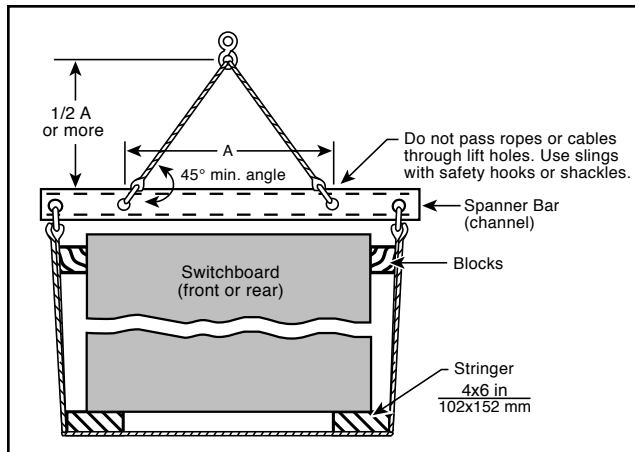

Figure 2
a) **Sling:** A crane or suitably rigged equipment with a chain arranged in a sling, or wire cable with safety hooks and shackles, should be used to lift a switchboard shipping section not equipped with lifting straps. Rig the sling completely around the switchboard and shipping stringers (see Figure 2), and use a forklift or jacks to lift the switchboard vertically off the floor to attach the sling.